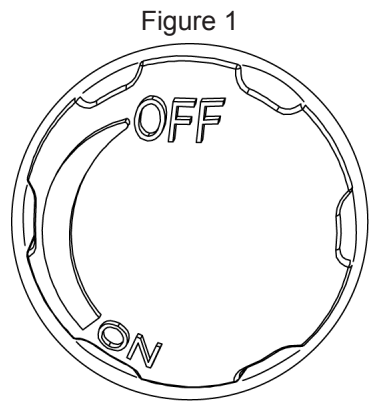

Figure 2
2. Lubricate the threads of the regulator valve with petroleum jelly, insert the gas tank into the regulator valve and hand-tighten firmly. (Figure 2)